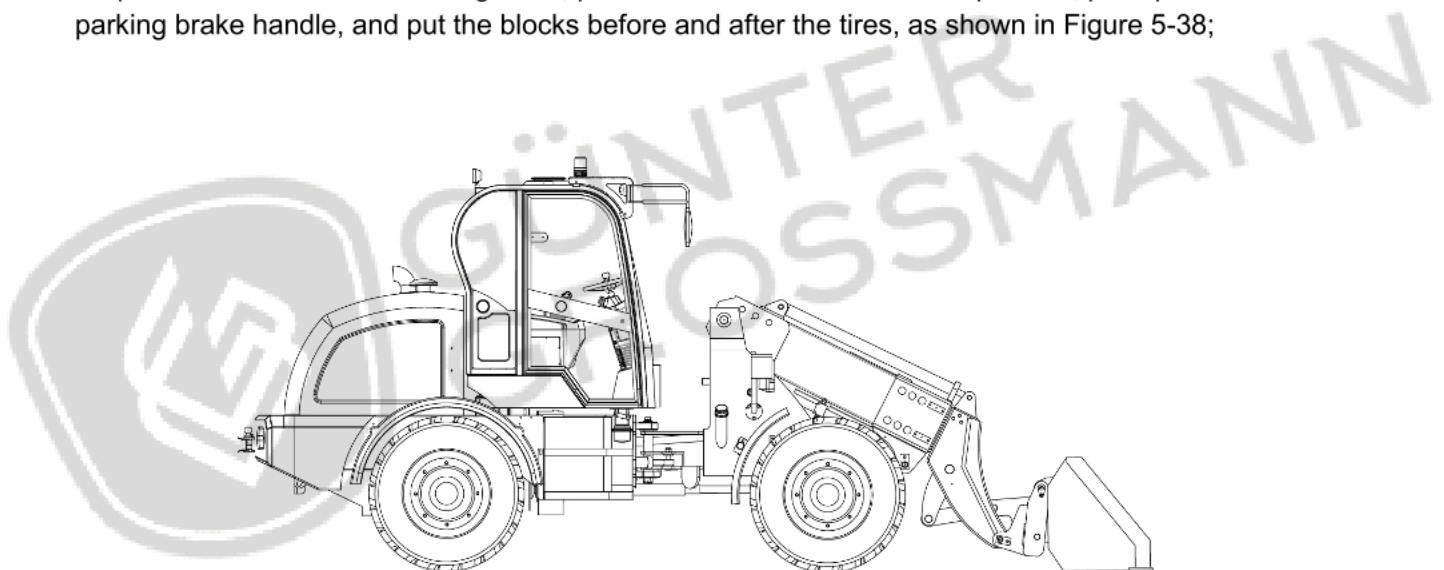

Figure 5-38 Stopped posture
Step 1: Park the loader on a flat ground, put the control handle in neutral position, pull up the parking brake handle, and put the blocks before and after the tires, as shown in Figure 5-38;